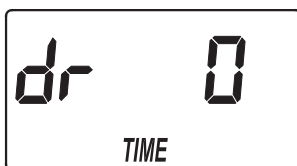

FIG. 23
1. If you completed the previous step, the solution draw / rinse time adjust screen should show in the display (See Figure 23). Otherwise, press and hold for 3 seconds the SELECT button, until the display shows "000 - -", then press the SELECT button twice to display the solution draw / rinse time adjust screen.